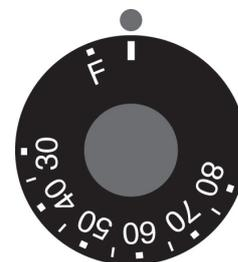

Fig. 27 Thermostat on "OFF"
- Turn the thermostat to position "I" (see Fig. 27 Thermostat on "OFF").